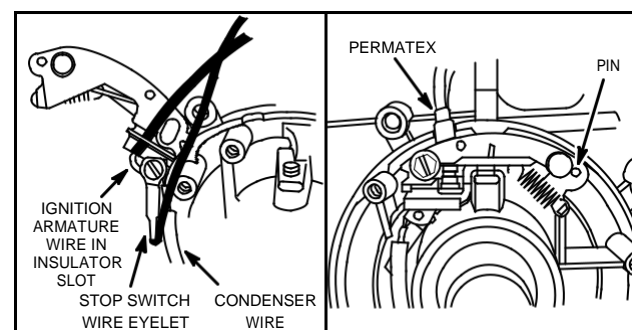

Fig. 97 – INSTALLING STYLE II BREAKER POINTS
1. Install ignition armature primary wire in slot of insulation with end of wire under clamp and wire from condenser under clamp on breaker point set, Fig. 97. Note position of wires.
5. Place breaker set on cylinder with pin in hole of breaker set, Fig. 97.